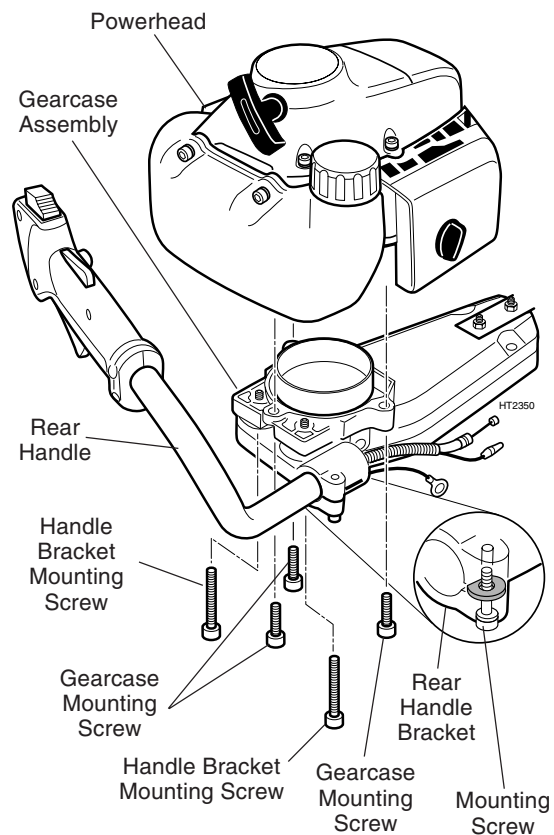

Figure 9. Removing the Gearcase Assembly and Rear Handle Bracket
- STEP 3.** Remove the three 6 mm x 16 mm gearcase mounting screws, and separate the gearcase assembly from the powerhead (Figure 9).
- STEP 4.** Remove the two 6mm x 35mm rear handle bracket mounting screws, and lift the rear handle assembly from the gearcase (Figure 9).